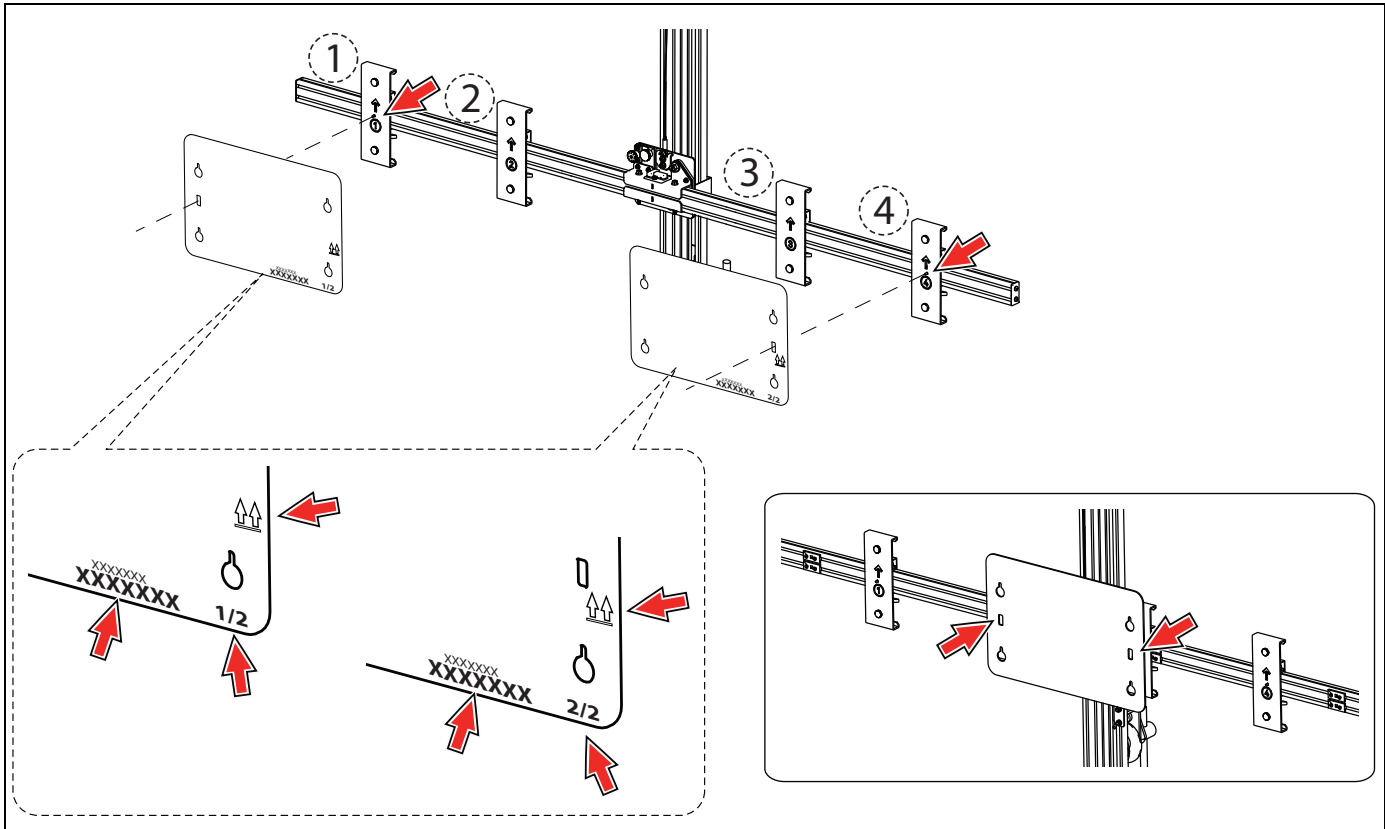

Figure 4-18
- Targets are labeled with the target name on the front face Figure 4-18.
- Targets are designed to be installed in one direction, the up position is identified with an arrow on the front face of the target Figure 4-18.
- For multi target sets, a single key slot is provided on the two outer targets (Figure 4-18) in the set, this ensures the targets can only be installed in one direction. Target mounts 1 and 4 include a locating pin (key) that mates with the slot in the target (Figure 4-18).
- Most single targets that use mounts 2 and 3 have key slots in both sides of the target (Figure 4-18), however the slots are not required for installation, as mounts 2 and 3 do not have locating pins.